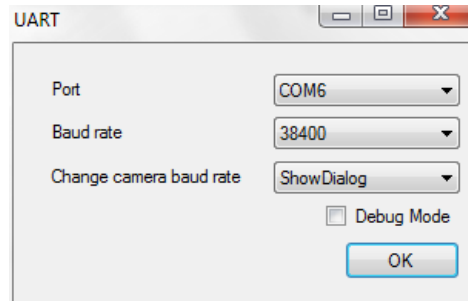

Figure 9
2. The following UART communication window opens when “COMM” menu then “Port Setting” is selected (Figure 9).
Once identified, set the appropriate port value in the 'UART' dialog box (Figure 9).
7. To change camera settings select the pre-set value buttons, use the slide bars, or enter the values directly. Please Note: Hit your “Enter” key after inputting new values in fields to maintain changes (Figure 9).